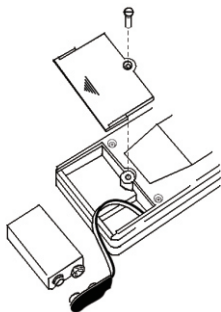

Figure 4. Battery Replacement
The apparatus uses a 9 V battery (supplied). To replace the battery, follow these steps and refer to Figure 4:
5. Replace the battery as shown in Figure 4.